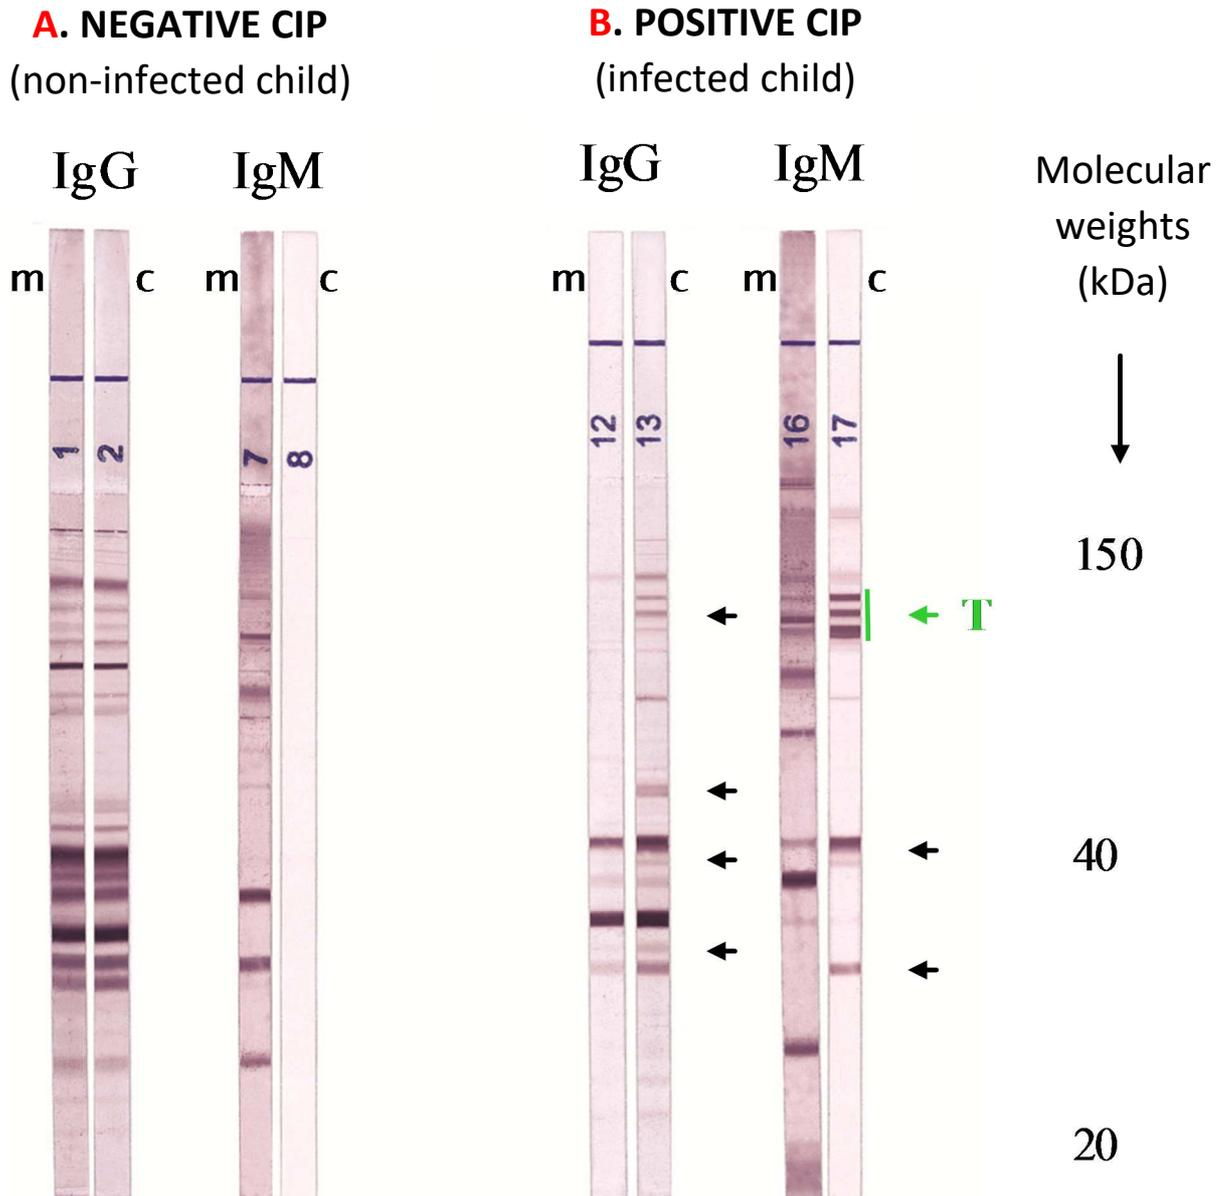

Fig. 1: Congenital toxoplasmosis - Examples of positive and negative results – (m= mother; c=child)
5. In contrast (congenital toxoplasmosis), a “triplet” (three very easily recognisable bands) located between 75 and 100 kDa is very often found on positive CIP-WB IgMs (see “**T**” Fig. 1, strip No. 17 to the right).